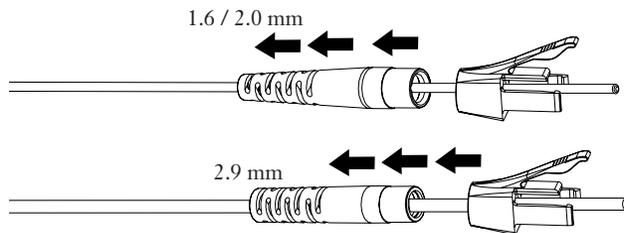

Figure 4-15
**4.5-1** Slide the required boot (segmented end first) and then the trigger down the cable until they are out of the way (Figure 4-15).